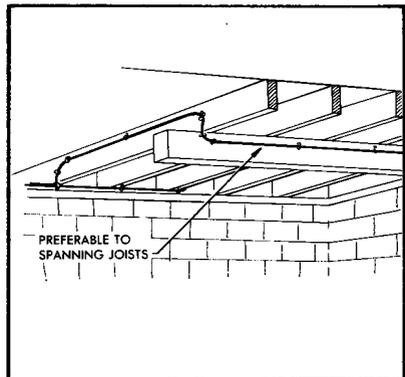

FIGURE 7. Spanning Joist
- g. If necessary to span joists, run wiring not more than 3 inches from wall. See Figure 7.